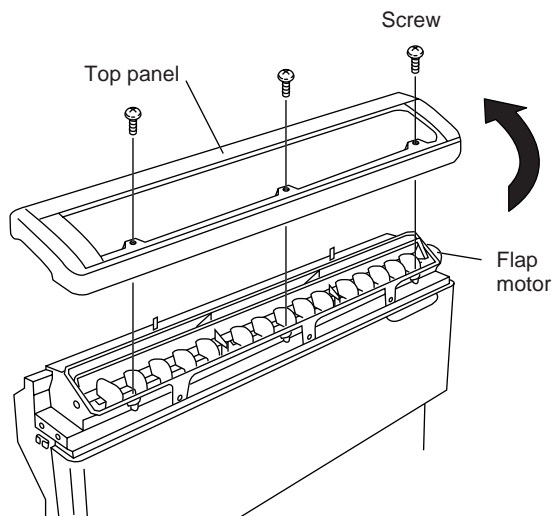

Fig.6
(Fig. 6)
- (2) While unlatching the 2 tabs inside the back of the top panel, lift the top panel diagonally in the direction of the arrow.(Fig. 6)
- (3) Remove the 2 screws to pull off the flap motor.